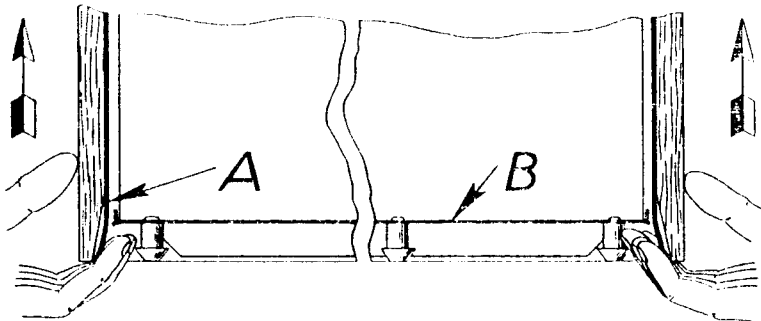

FIG. 2.
2. Place the set in an upright position, speaker grille forward, with base resting upon a book or several match boxes or some such article that is somewhat smaller than the base and is sufficiently high to allow the fingers of both hands to be placed on the underneath edges of the cabinet (with palms of hands upward) as in Fig. 2.